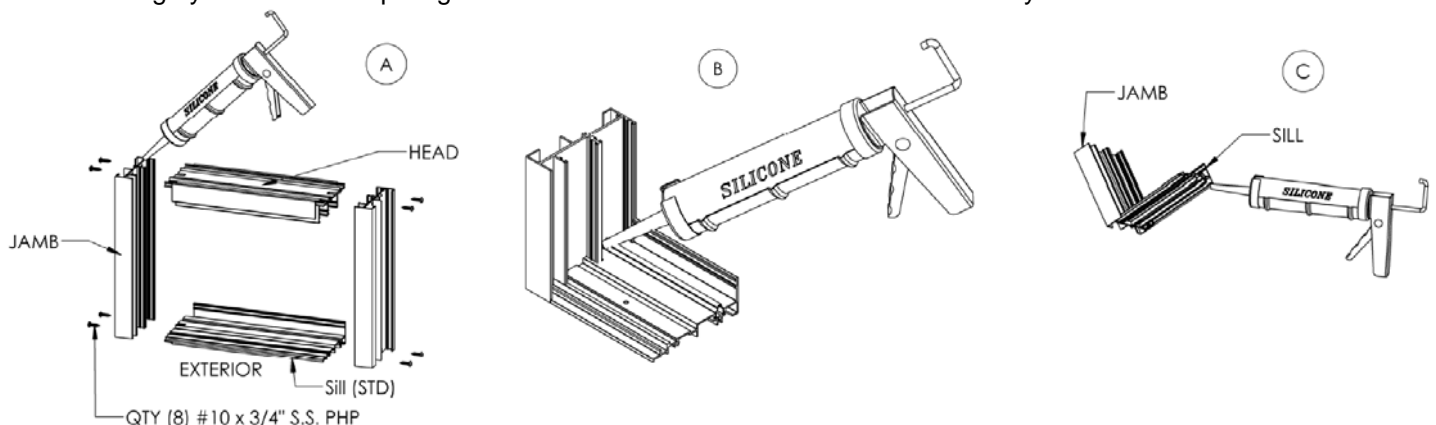

Figure 8:
1. Add sealant to the upper corners of the jamb(s) and to the end of the head that is compatible to the entire assembly as shown in Figure 8, Detail A.
4. After frame has been assembled make sure ample sealant is forced in and around each contour at all four corners as shown in Figure 8, Detail B. Seal outside corners from underneath threshold as shown in Figure 8, Detail C.